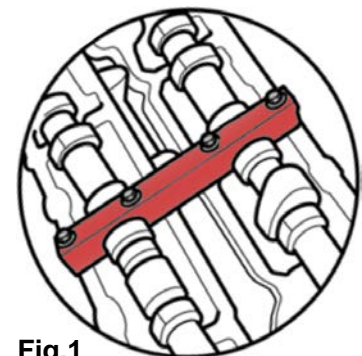

Fig.1
- Install the camshaft holding tools on the left and right cylinder rows (Fig.1). The marks of the camshaft gears must be aligned.